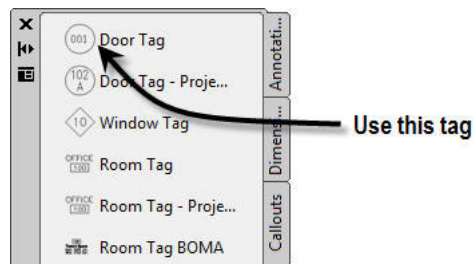

Figure 5. The Door Tag tool.
- Tagging** – If you use one of the “smart” object tags that come with AutoCAD Architecture, any object-based property sets required by the tag will automatically be attached to the objects as you place the tags. Navigate to the “Annotation” tool palette and find the “Door Tag” tool shown Figure 5. (*Do not select the “Door Tag – Project Based” tool – this will work differently. We will look at project properties later.*) Select the “Door Tag” tool and follow the prompts: